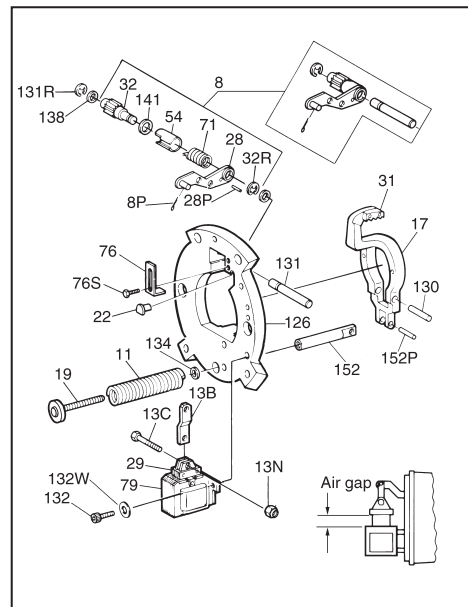

Figure 5
D. Self-adjust maintenance (see *Figure 5*)